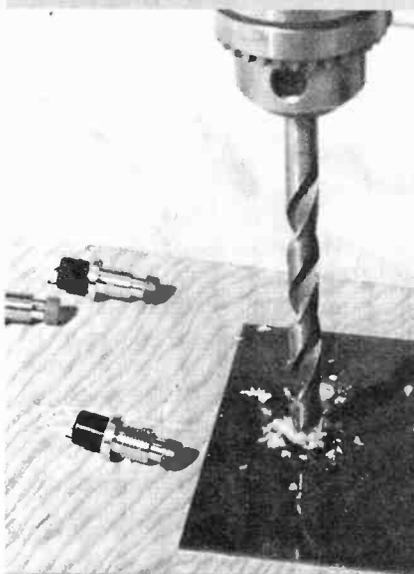

Fig. 3
Cutting holes is done with ordinary drill bits, as shown in Fig. 3. It is important to note that during the drilling operation, the sheet of plastic must be firmly held or clamped to a piece of wood to prevent it from riding up the bit and cracking. Square and rectangular slots can be made by drilling a small hole and cutting with a coping saw.
**Fig. 3** Acrylic is easily drilled by holding the plastic firmly to a wooden base. Here, holes are being drilled for pushbutton switches. Square and rectangular slots can be made by drilling a hole and cutting with a coping saw.
Fig. 3. This audio distribution amplifier circuit features multiple isolated outputs and can be used effectively in electronic musical instruments to achieve special effects.
In contrast to the multiple input mixer described earlier (Fig. 1D), the audio distribution amplifier circuit illustrated in Fig. 3 features multiple isolated outputs. It can be used effectively in electronic musical instruments for special effects as well as in PA, music distribution, and intercom systems requiring multiple drives for several power amplifiers to achieve high output levels. It also can be used in light organ, audio control, and test instrument designs. Abstracted from 20-page Bulletin CB-248, published by Texas Instruments, Inc. (P. O. Box 5012, Dallas, TX 75222), the distribution amplifier employs a type TL084 quad operational amplifier. A member of TI's BIFET family, the TL084 comprises four identical JFET input op amps in a single 14-pin DIP. The device can be operated on dc supply voltages of up to  $\pm 18$  V, with each amplifier section offering an input impedance of  $10^6$  megohms, a unity gain bandwidth of 3 MHz, a slew rate of 12V/ $\mu$ s, internal compensation, and continuous integral output short-circuit protection. Individual amplifier pin connections are not identified in the schematic diagram because the amplifier sections are interchangeable and the final selection can be made best by the equipment designer to achieve optimum layout and lead